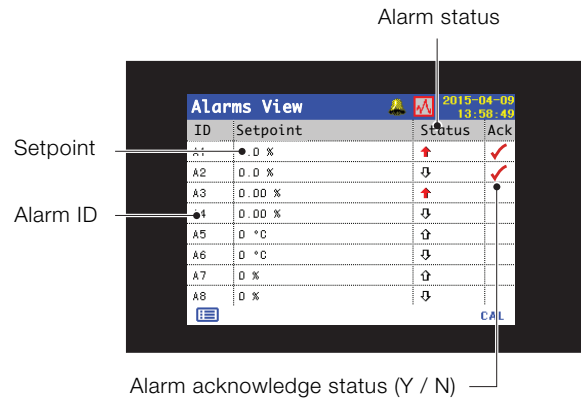

Fig. 8.9 Alarms view
- *Alarms view* – displays a list of alarms identified by priority (sequence number), source and status (see Fig. 8.9)